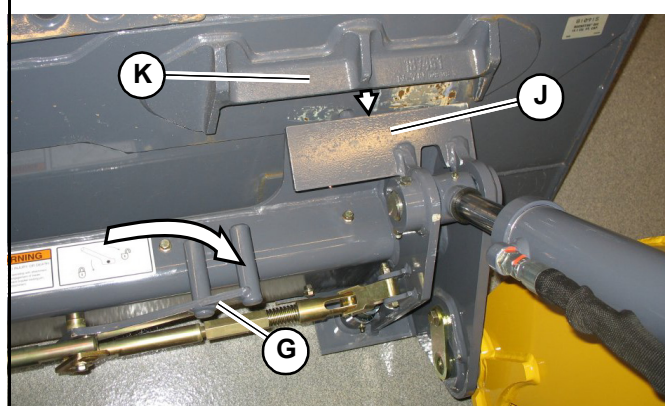

Fig. 70 – Attachment Hitch – Unlocked
3. Place the attachment lock into the unlocked position (Fig. 70):
- Power-A-Tach® system hitch – Press the bottom of hitch lock switch (I) until safety flags (H) have moved all the way in.
- Manual attachment hitch – move hitch lock lever all the way to the right (G).